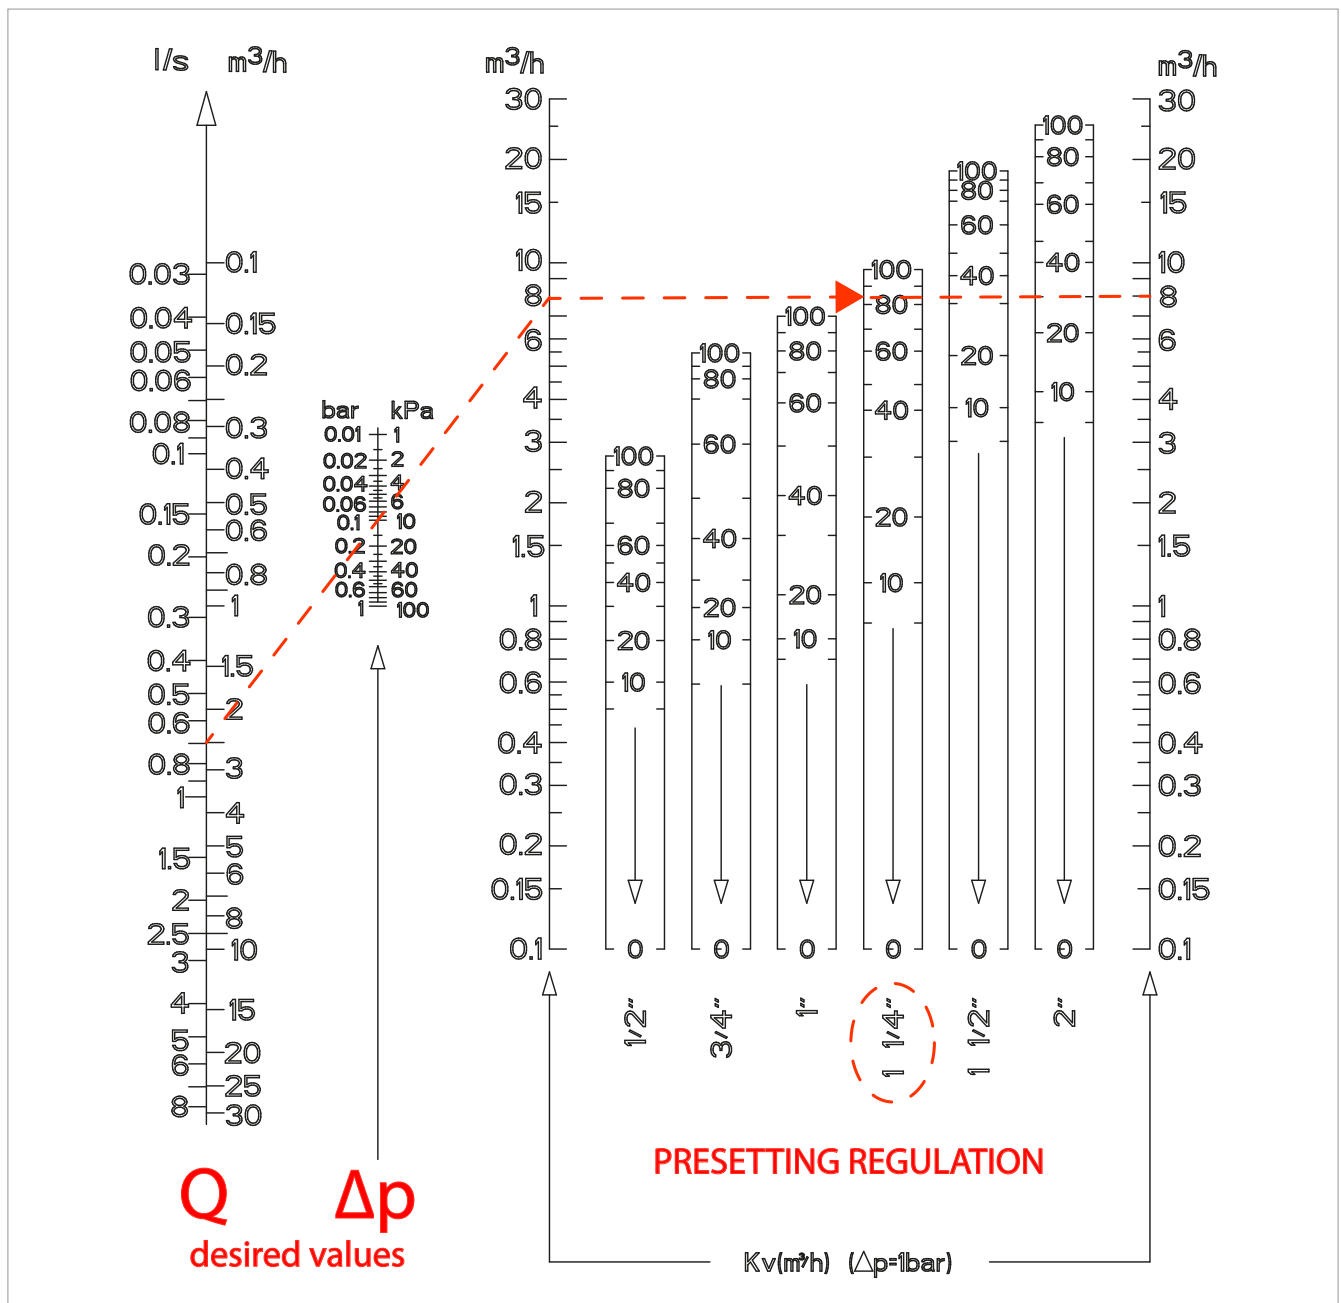

Fig. 3
- Through the diagram of figure 3, determine the regulation to be carried out to obtain the desired flow rate Q depending on the differential pressure Δp according to the valve size.